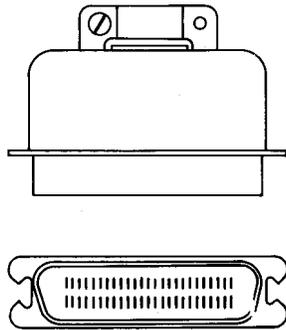

Fig. 1—450A Plug
**2.01 450A:** The 450A plug (Fig. 1) consists of a rectangular block of insulating material, equipped with 50 gold-plated contacts assembled in the front and back of a metal shell. The shell is equipped with a cable clamp located on the rear of the shell. The plug is polarized to insure proper mating with locking connectors. The 450A plug is used in the 6A1 Data Mounting.